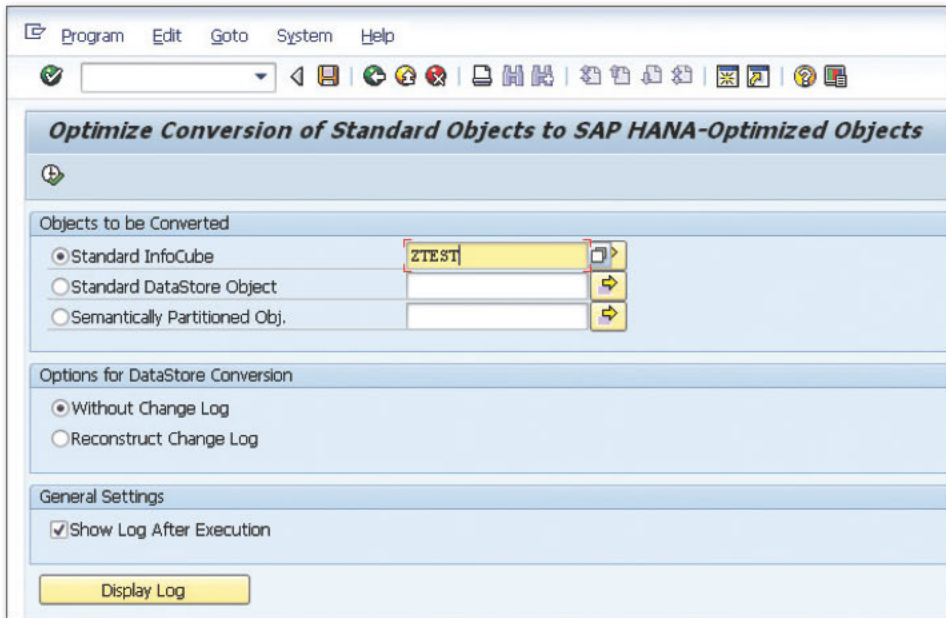

Figure 1 Entering the Cube Name
3. In the subsequent screen, select the standard InfoCube that needs to be converted, and click the EXECUTE button (see Figure 1).